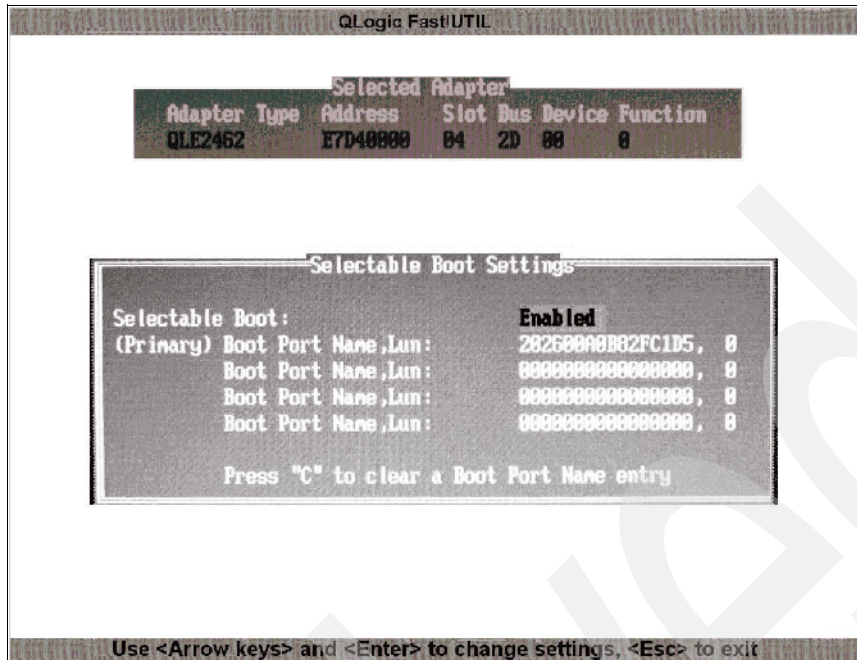

Figure 26-23 Selectable Boot Settings
2. Move the cursor to (Primary) Boot Port Name, Lun field and press Enter. Now select the DS3400 entry as the boot device. The controller and FC host port WWN should appear and the LUN should be 0 (see Figure 26-23 on page 659).